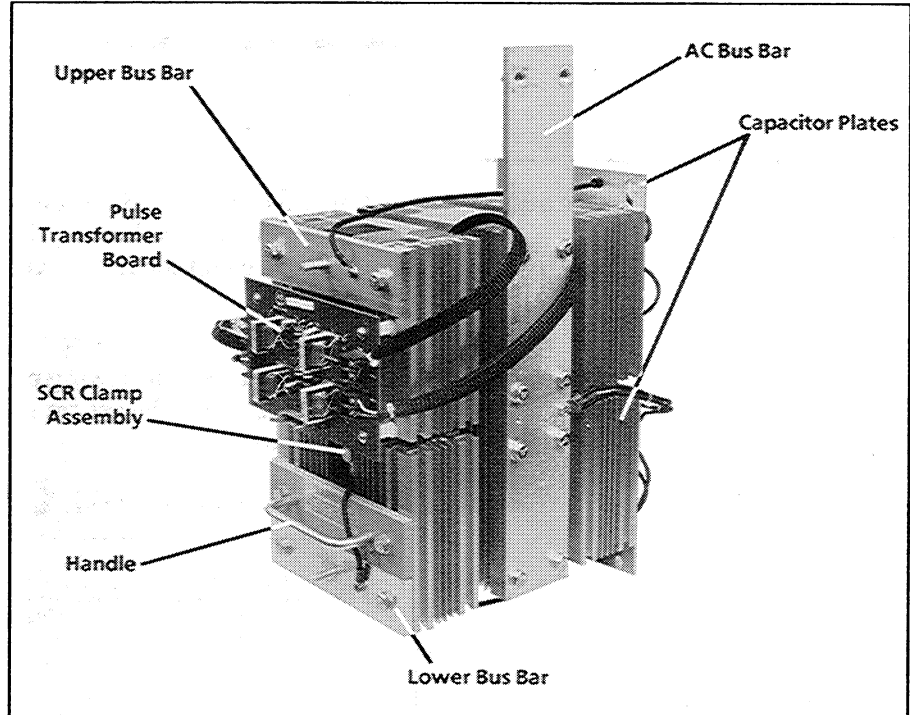

Figure 1 – Pole Piece Components
- 1. Using the nine 8-32 x .75 screws supplied, secure the Plate Guide (6) to the Base Plate (5).
- 2. Secure the two Rail Brackets (7) to the base using four 1/4-20 x .5 screws and 1/4" flat washers.
- 3. Position the Pole Piece as shown in Figure 1. Label and remove the gate leads connected to terminal blocks TB1, TB2, TB3 and TB4 of the Pulse Transformer Board. Remove the Pulse Transformer Board.
Remove the Pole Piece from the fixture and position it as shown in Figure 1. Reassemble in reverse order using the steps below as a guide.